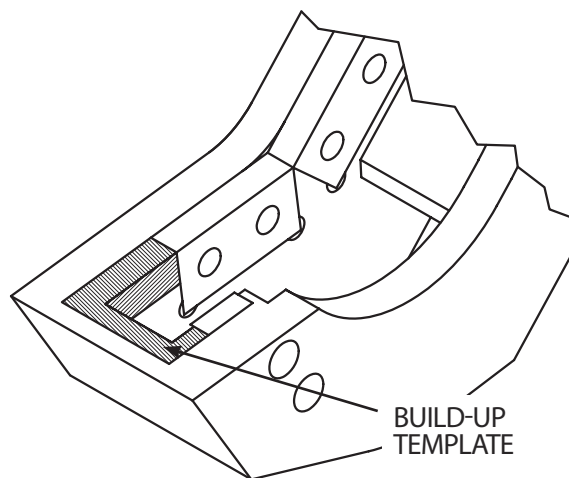

FIGURE 5-11
1. Place the shear in a horizontal position and block it up about 18" high, or preferred working height. Use a straight edge on the inside of the shear blades and on the guide blade (see figure 5-10) or a the lower profile template supplied by LaBounty (see figure 5-11) to determine how much build-up and hard surfacing is required .